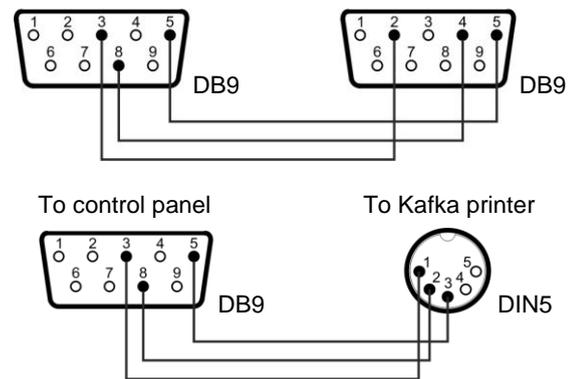

Figure 18
The addressable fire alarm panel MAGPRO16 is equipped with RS232 interface connector, situated in the middle of the main PCB, for connecting a heat printer. The heat printer allows the technician to print the log file for the alarm and fault events, warnings and changes during programming. The capacity of log file is 10 240 events, which are saved with date and time of occurring – see also item 7.1.4. The addressable fire alarm panel MAGPRO16 supports Canon 9 type external printers, models Kafka and Datecs. For connecting the MAGPRO16 panel to the heat printer you have to prepare a special cable for the purpose – connect two male DB9-DB9 (Datecs printer) or DB9-DIN5 (Kafka printer) type connectors as shown on Figure 18. Before printing (access levels 2 and 3) make sure that the heat printer is connected to the 'PRINTER' interface connector on the main PCB and the printer is powered on.